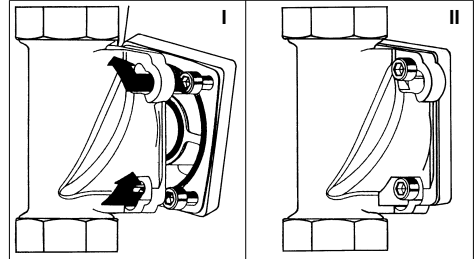

Fig. 7: Rotary flange fitting with bayonet
- Place on the rotary flange fitting so that the screw heads project through the bayonet holes (see fig. 7 I).
- Fully tighten the four M6×130 hexagon socket head screws (see fig. 7 II).
- Position the water softening system on the "G"-labelled flange of the bypass valve so that the screw heads project through the bayonet holes (see fig. 7 I).